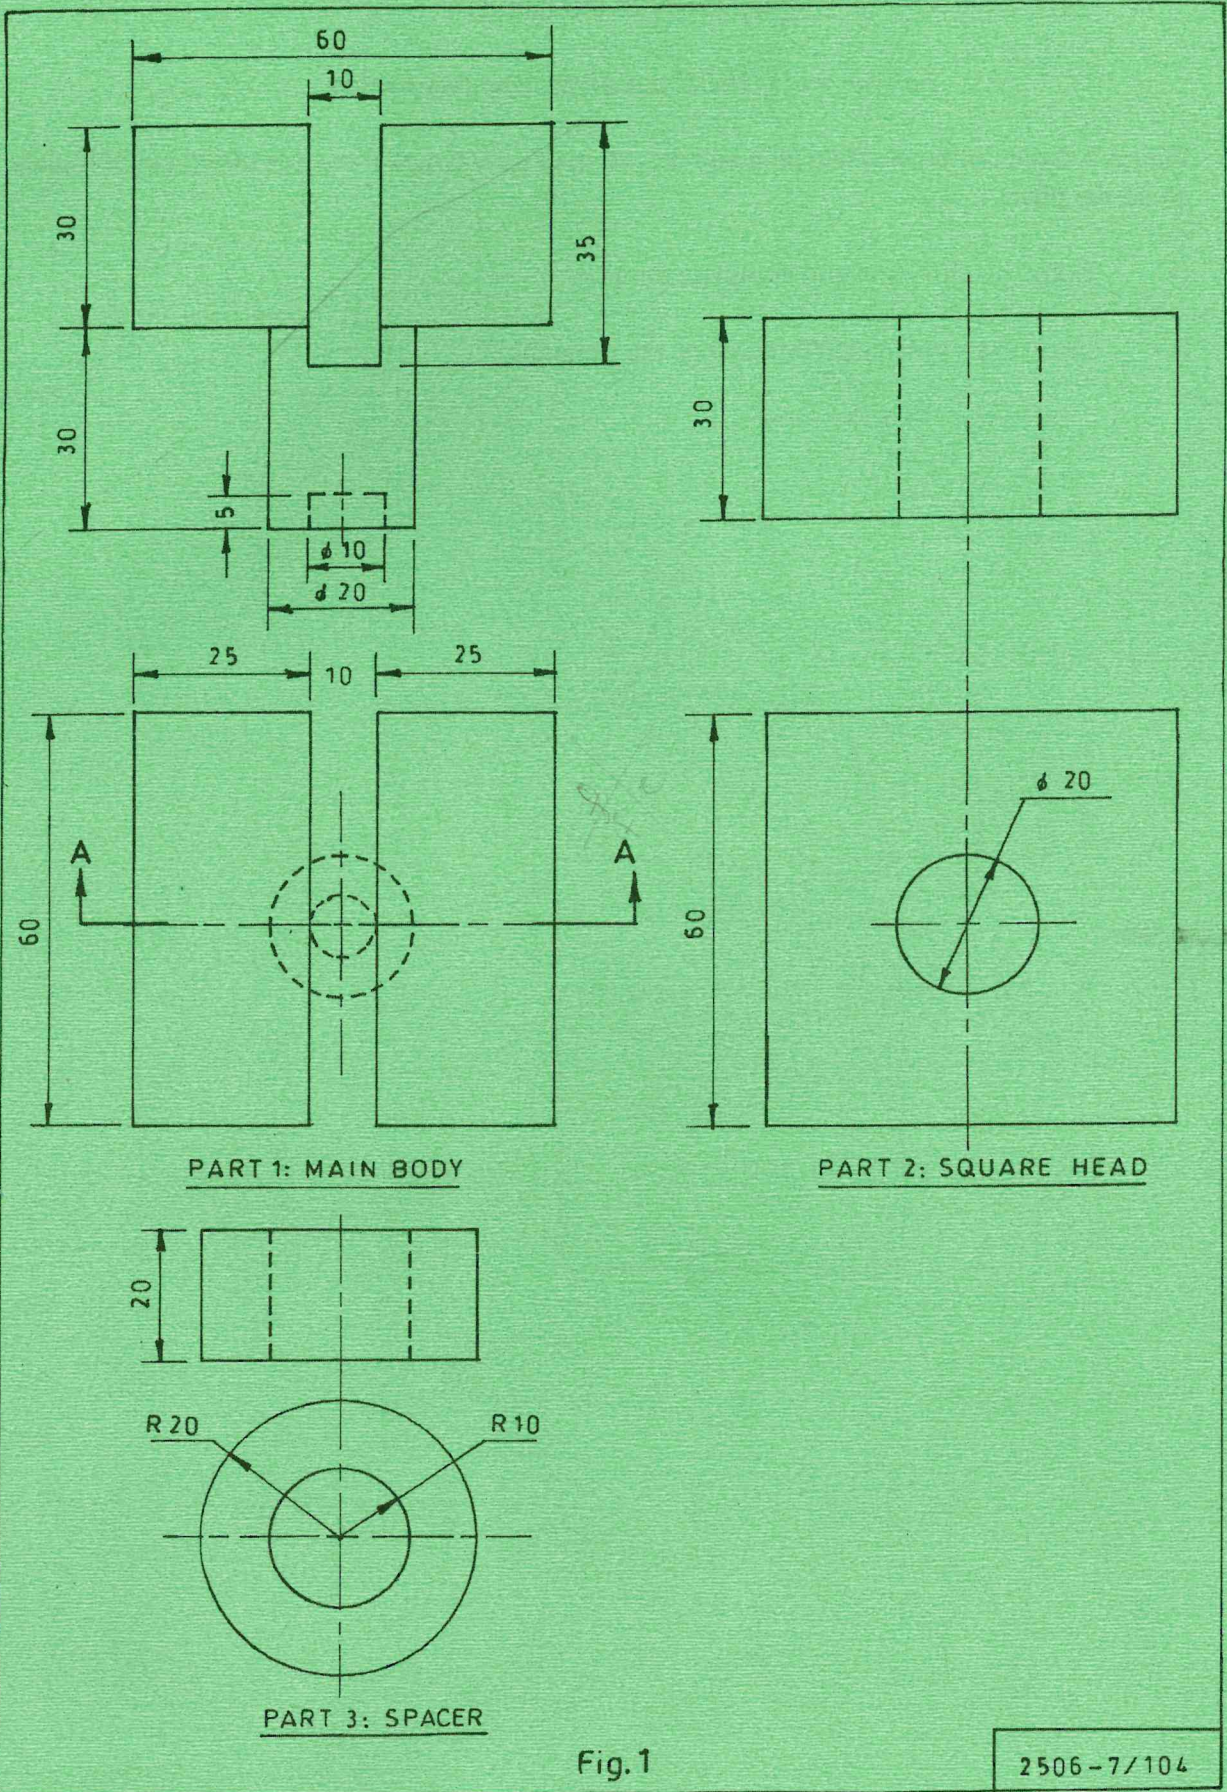

Fig.1
1. Figure 1 shows details of part of an actuation valve. Assemble the parts and draw in first angle projection the following views: